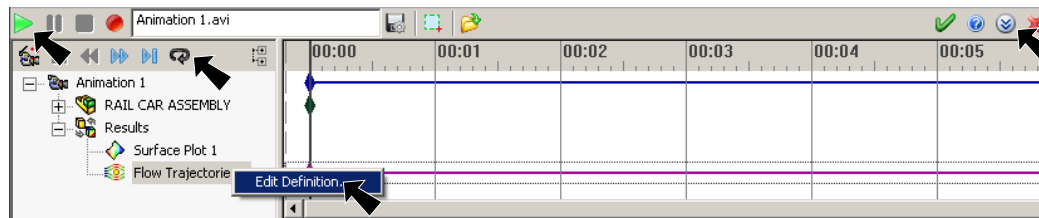

Fig. 31
Step 3. At the bottom right of the display in the animation control panel, click **Expand**  to expand the panel, Fig. 31.
Step 4. Click **Play**  in animation control panel, Fig. 31.
Step 5. **Right click** **Flow Trajectories 1** in the Animation tree and click **Edit Definition**, Fig. 31.
Step 7. Click **Loop**  and **Play**  in animation control panel, Fig. 31.